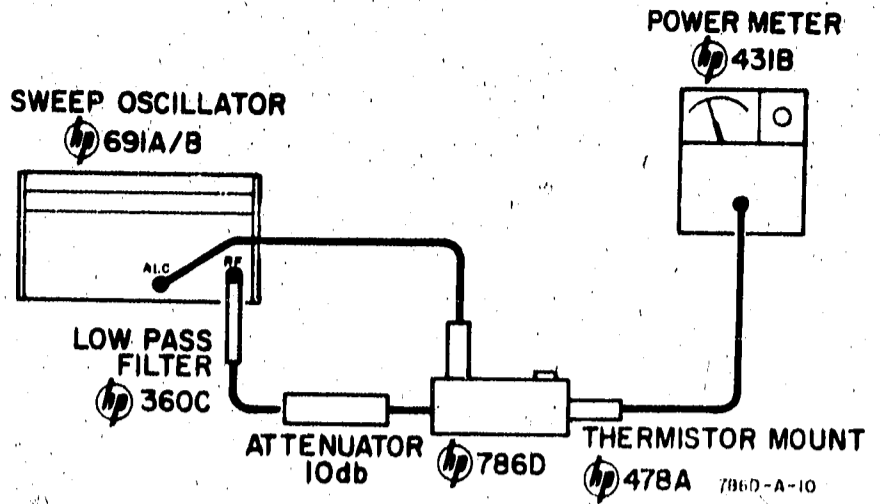

Figure 8. Frequency Response Check
a. Set up test equipment as shown in Figure 8.
a. Set up test equipment as shown in Figure 8 with the following exceptions: the 10-db Pad should be connected between 786D and 478A and detected output connected to a DC Voltmeter through a BNC-to-binding post adapter.